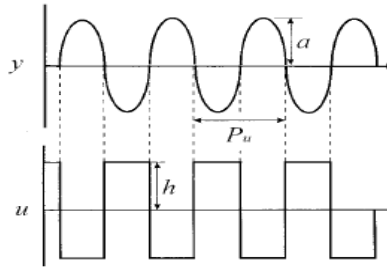

Figure Q6
6. The process input and output curves in a relay test is shown as in Figure Q6, where $p_u = 10s$, $a = 0.3$, and the first relay switch time of $0.2s$ are obtained from measuring the curves of Figure 1